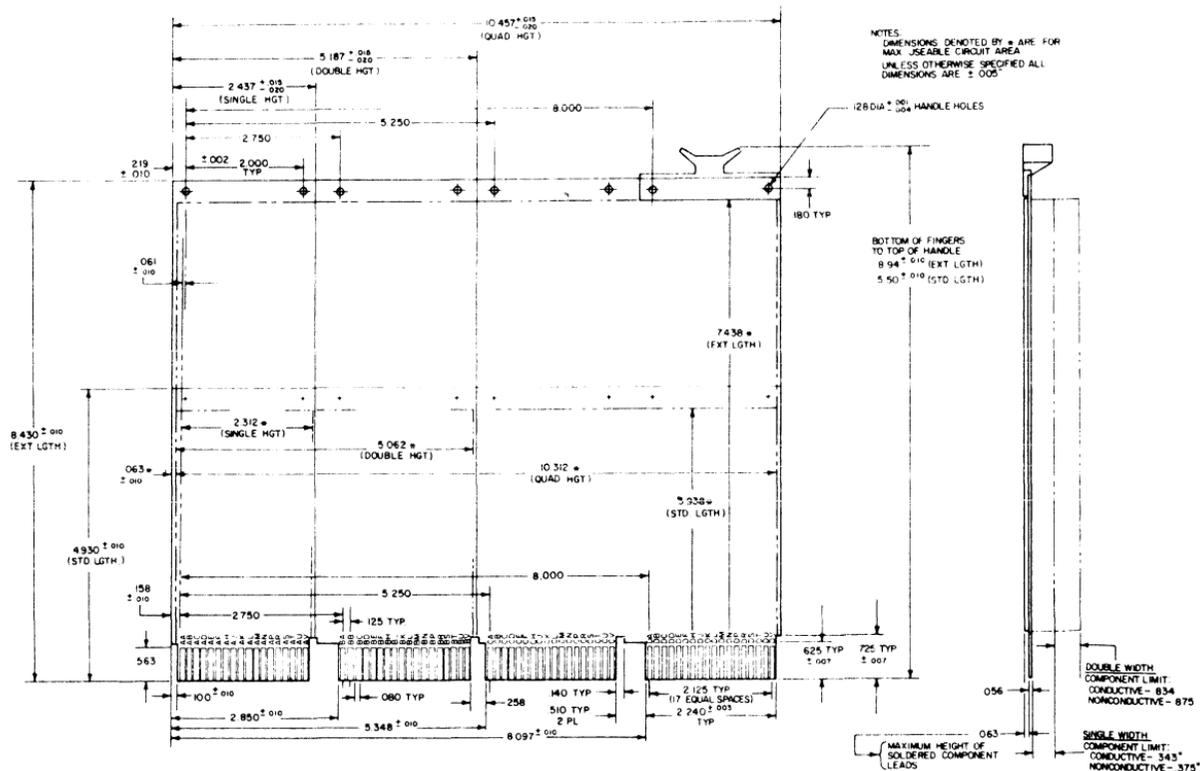

Figure 2-1 Module Dimensions
6. The interface modules are standardized as either a double or a quad and all are extended length. The double size module is 13.2 cm (5.2 in) high, 22.8 cm (8.9 in) long, and 1.27 cm (0.5 in) wide. The quad size module is 26.5 cm (10.5 in) high, 22.8 cm (8.9 in) long, and 1.27 cm (0.5 in) wide (Figure 2-1).